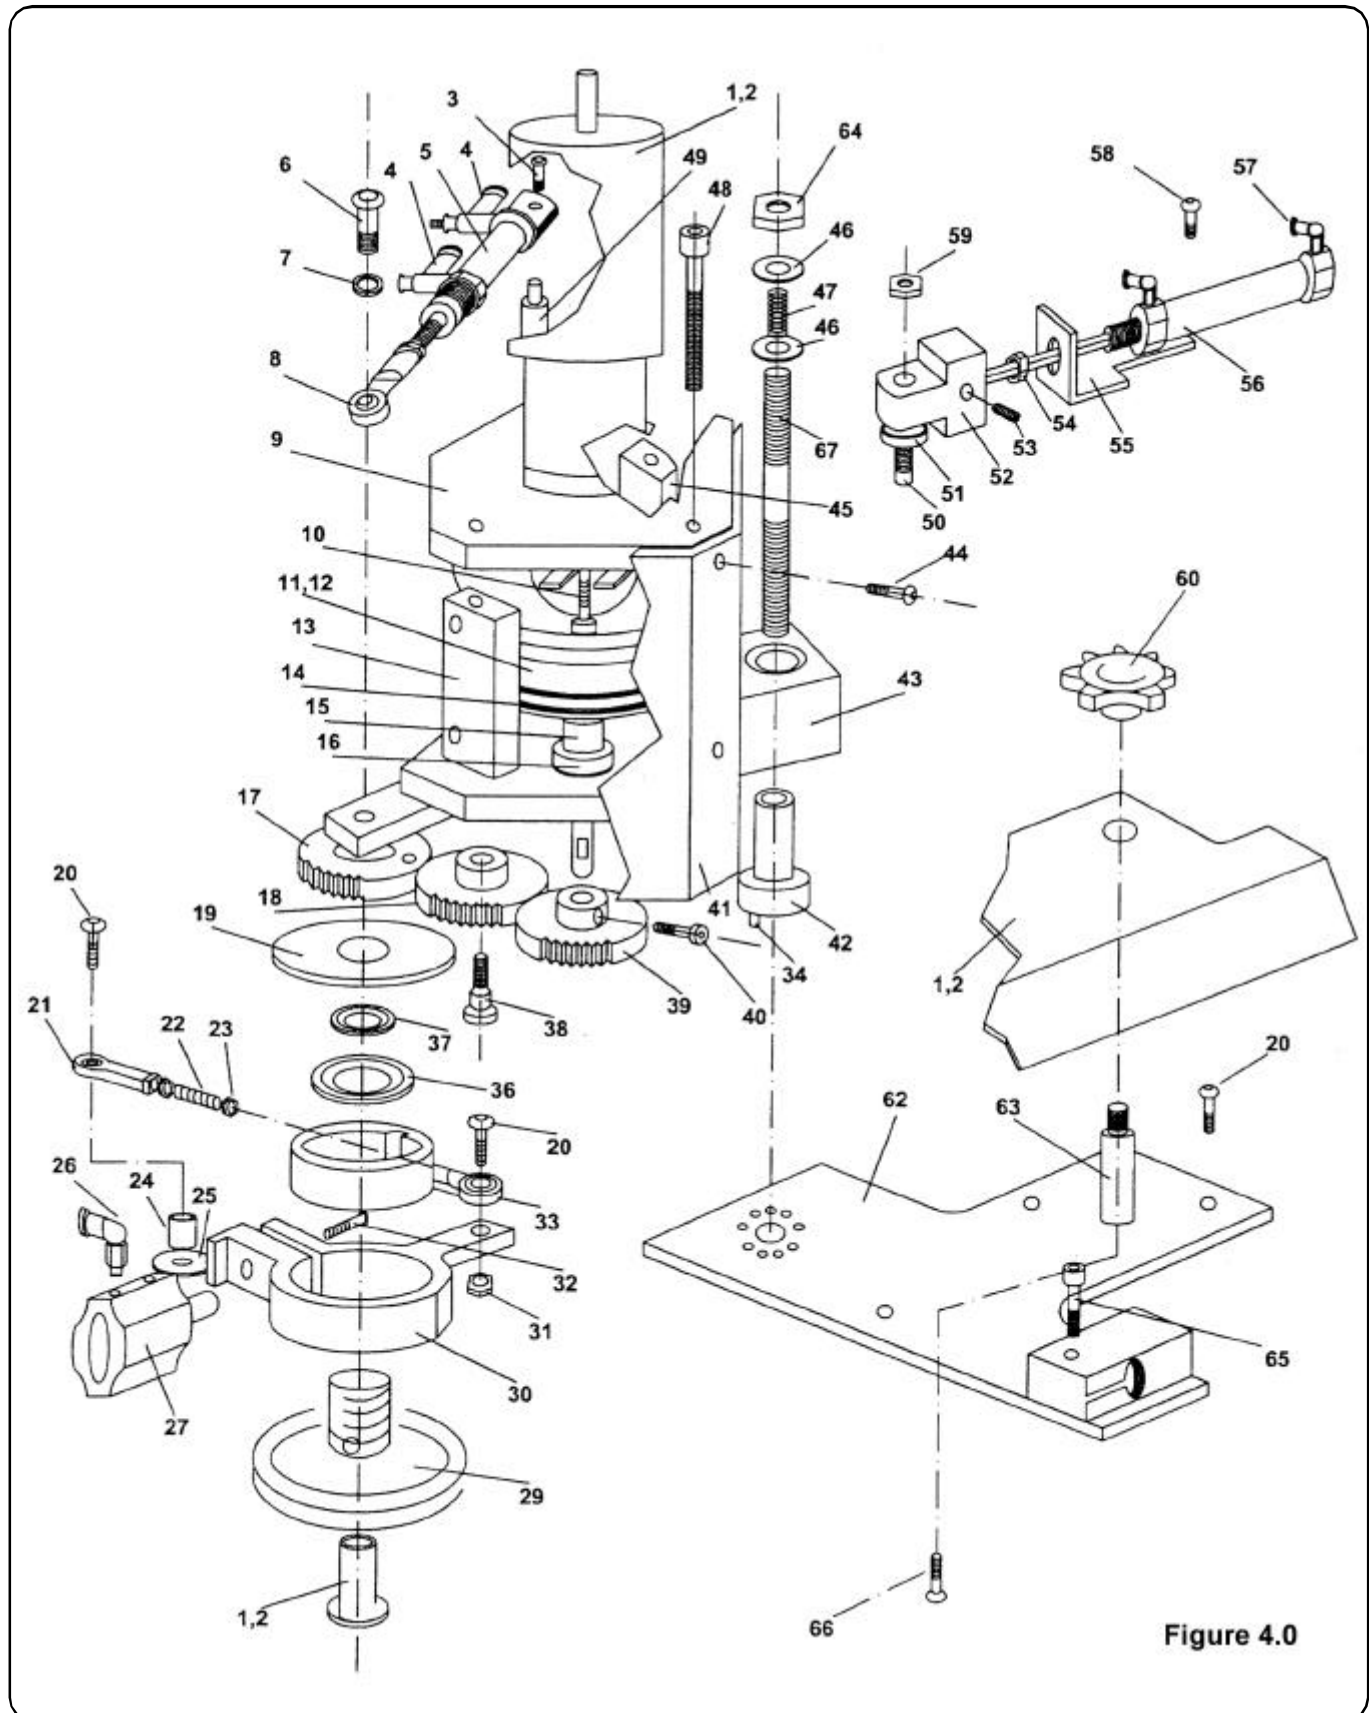
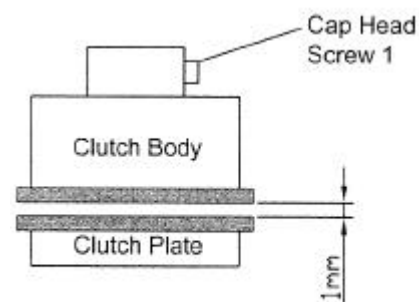

Figure 4.0
Figure 4.3
Figure 4.0 shows the jig drive assembly. On the 84-55 a jig may be driven continuously or with an indexed motion. The settings for these two styles of motion are given in separate sections below. Any settings common to both types of motion are also given in separate sections.
The rod end bearing ( item 8, figure 4.0) should be set so that when the cylinder is fully extended the drive wheel is taken 3mm past its point of contact with the jig.
The drive arm eccentric ( item 34, fig 4.0 ) is used to adjust the point of contact between the drive wheel and the jig face in relation to the throat plate 'D'. Location holes drilled into the base plate, item 62, ensure the eccentric does not move from the position it has been set to. The factory setting for the eccentric is shown by a center pop mark next to the relative hole. If any adjustment is required slacken off nut 64 and lift drive arm item 43, up allowing the eccentric to rotate. Ensure the pin is located in one of the holes and tighten the nut. Set the spring 47 to the correct compression, see section 4.1.2.d.
To allow the jig drive wheel to find its optimum location point a floating drive arm, 43, fig 4.0, has been used.
As well as providing the drive to the drive wheel , the drive linkage , item 22, figure 4.0, also determines the angle of the drive clamp cylinder, item 27, figure 4.0. if the angle of this cylinder is incorrect it can foul on the sewing jig or collide with the drive linkage itself.
The DC motor, item 1, figure 4.0, is used to obtain the continuous drive feed . The motor has two speed settings.
The clutch, item 11, figure 4.0, engages and disengages the DC drive motor. The gap between the two clutch faces must be set correctly to avoid slippage and binding. Figure 4.2 shows how to increase and decrease the clutch power. Figure 4.3 shows the gap setting between the faces. Release the cap head screw 1 and move clutch body up or down until the correct setting is achieved.